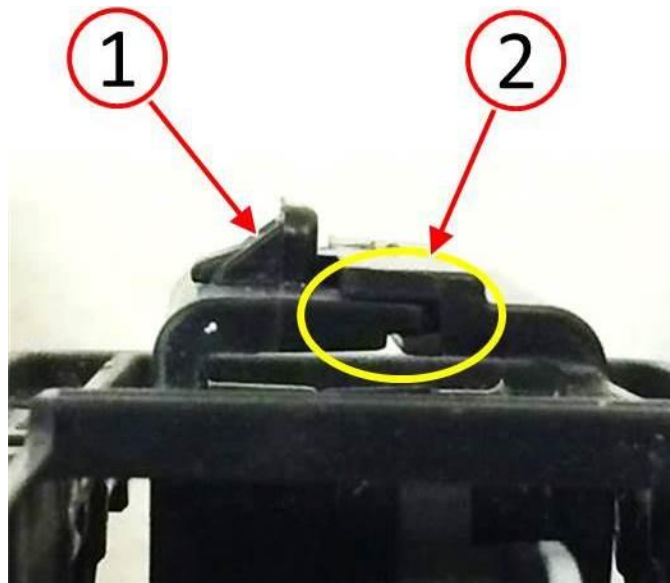

Fig. 6 Inspect Actuator Motor Case Housing For Engagement
- Inspect for engagement of the AGS actuator motor case housing retainer (1) and that no separation (2) is visible between the actuator motor case housing halves (Fig. 6).